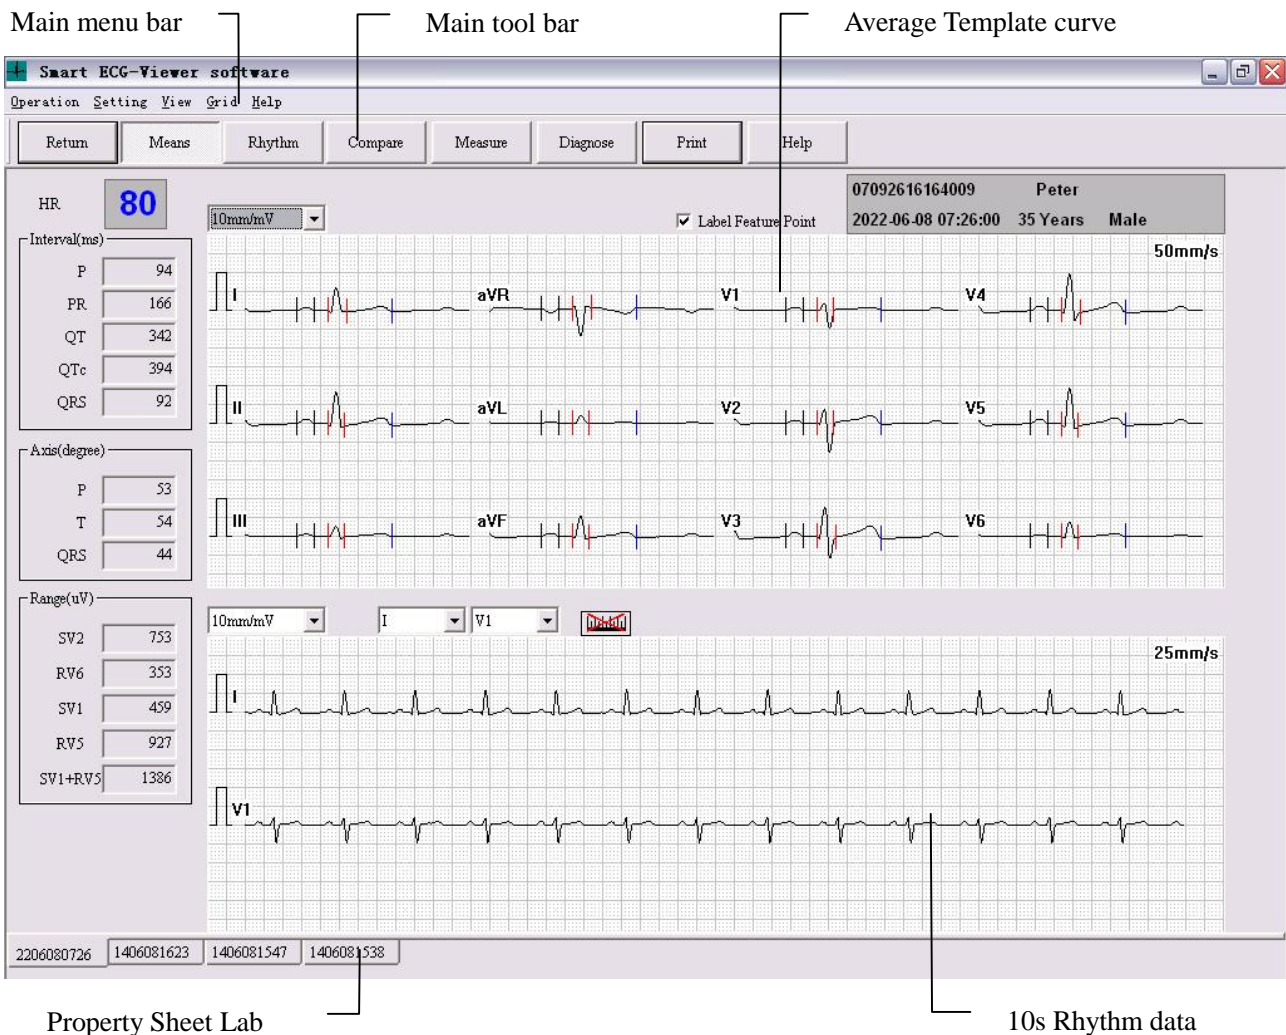
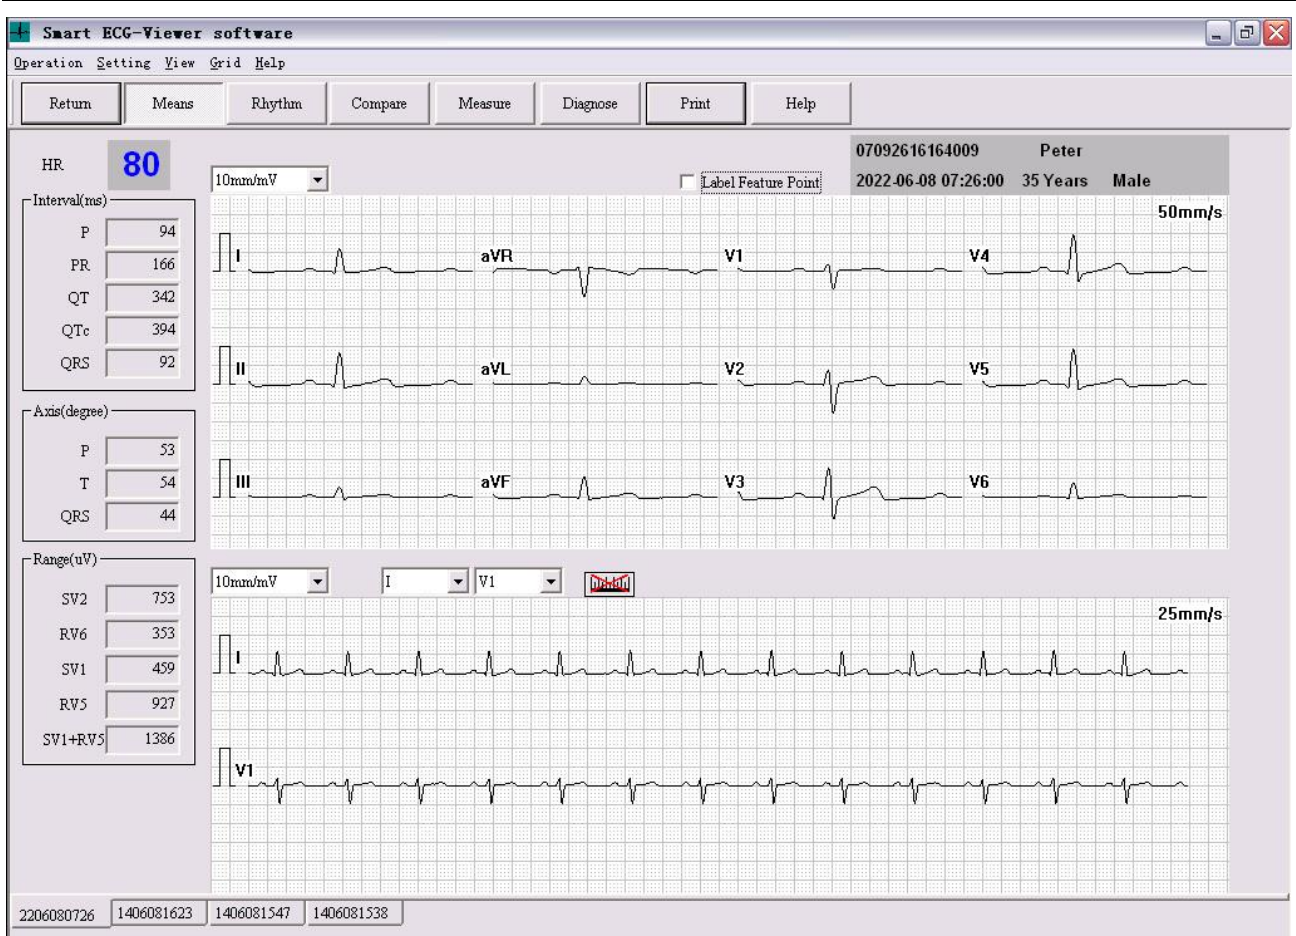

Figure 4-5 Mean interface of ECG curve view window (Select Label Feature Point)
Figure 4-7 Mean interface of ECG curve view window (Do not Select Label Feature Point)
For the case records of Auto mode, click **View** button in the Case Records button group or click **【Record】 à 【View】** in the main menu bar to switch to the ECG curve view window, as figure 4-5 shows.
In Figure 4-5 and Figure 4-6, the user selects **Label Feature Point**, and the curve feature points are marked; If the user does not select **Label Feature Point**, the curve feature points will not be marked, as Figure 4-7 and Figure 4-8 shows.
Click **Rhythm** button in the main toolbar of Figure 4-5 to switch to the browse interface of 10s rhythm data and curve. In the interface, the system supports 3-leads per screen display, 6-leads per screen display and 12-leads per screen display. And the user can also set the gain and paper speed in this interface. Besides, the scrolling display of lead and moving display of time axes can be carried out by the **Up/Down/Left/Right** key on the top.
Click **Compare** button in the main toolbar of Figure 4-5 to switch to the comparing browse interface of multi-cases. In this interface, the user can view 10s rhythm data of every lead of multi-cases, and mean data of every lead, and auto-diagnosing results.
Click **Measure** button in the main toolbar of Figure 4-5 to pop up the dialog box of ECG Auto Measurement Result, as the following figure shows.
Click **diagnose** button in the main toolbar of Figure 4-5 to pop up the Diagnose dialog box. In this dialog box, the user can directly enter his own diagnosing opinions into the Diagnosis Information Input Field, or select the necessary information in the Auto Diagnose Tree and click **Add** key to add the selected information into the Diagnosis Information Input Field.
- Click **Print** key in the main tool bar of Figure 4-5;